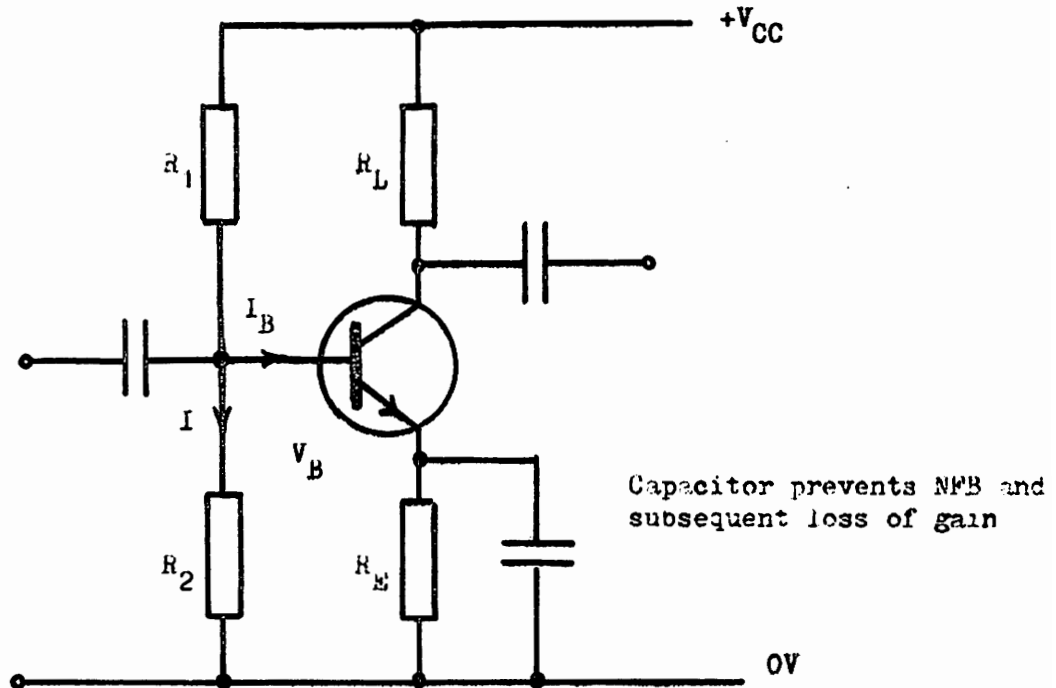

Figure 4: Fully Stabilised Common Emitter Amplifier
- 4.4 With reference to figure 4,  $R_2$  is chosen to ensure  $I$  is very much greater than  $I_B$ , eg.  $I \geq 10I_B$ . This ensures the transistor base potential is set by the potential divider  $R_1, R_2$ . Hence  $V_B$  is substantially independant of  $I_B$ .